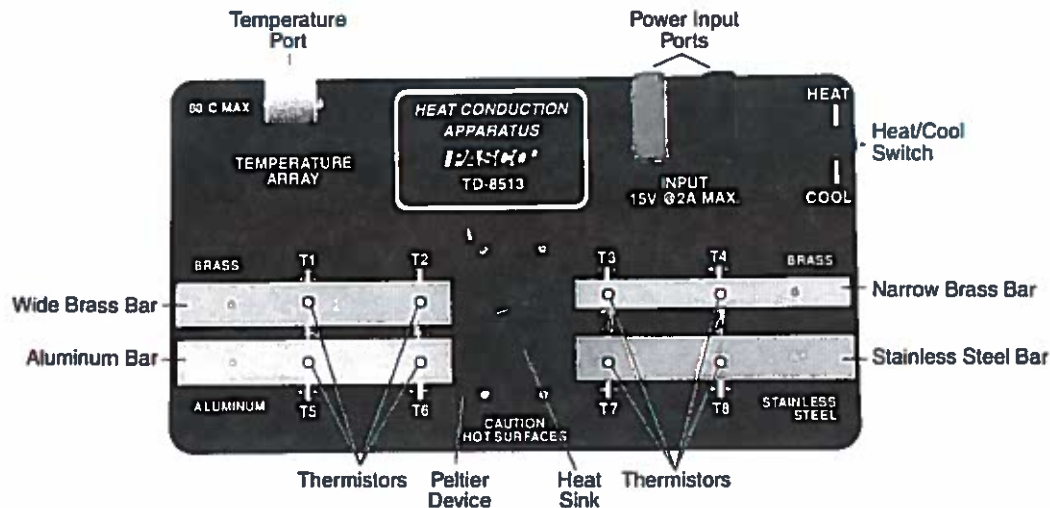

Figure 11.2: The heat conduction apparatus
In this experiment, we will calculate the rate of heat flow for different conducting materials. We will also study how the cross-sectional area affects heat conduction. The heat conduction apparatus used in the experiment has 4 metal bars, as shown in Figure 11.2. One end of each bar is heated using a Peltier device. Temperature is monitored using sensors (thermistors) placed at two locations in each bar. Temperature readings are taken with thermistors at locations T1 through T8.
3. In this part of the experiment, you want to determine which material (between brass, aluminum, and stainless steel) is the better heat conductor. We will compare temperature readings T1, T5 and T8, see Figure 11.2.
7. The three temperature readings used in the previous step were taken by thermistors on the “far” end of each metal bar, see Figure 11.2. Notice that each bar has a thermistor placed “close” to the heat source as well, for example, T1 is the “far” reading of the wide brass plate and T2 its “close” one.